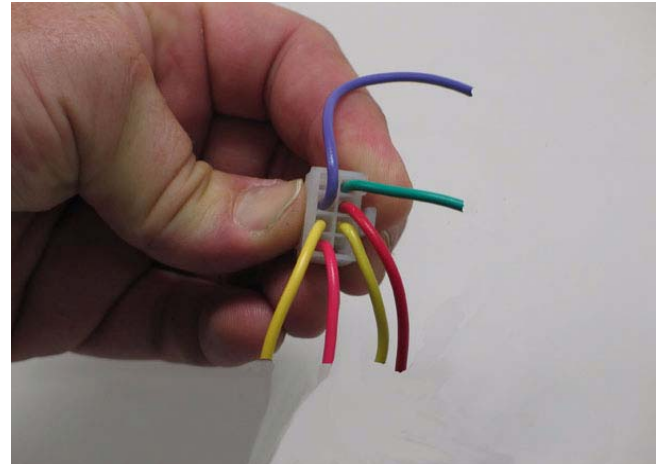

Figure 38.12
38.12. Disconnect the molded 8-pin plug from the RMC module. See Figure 38.12.